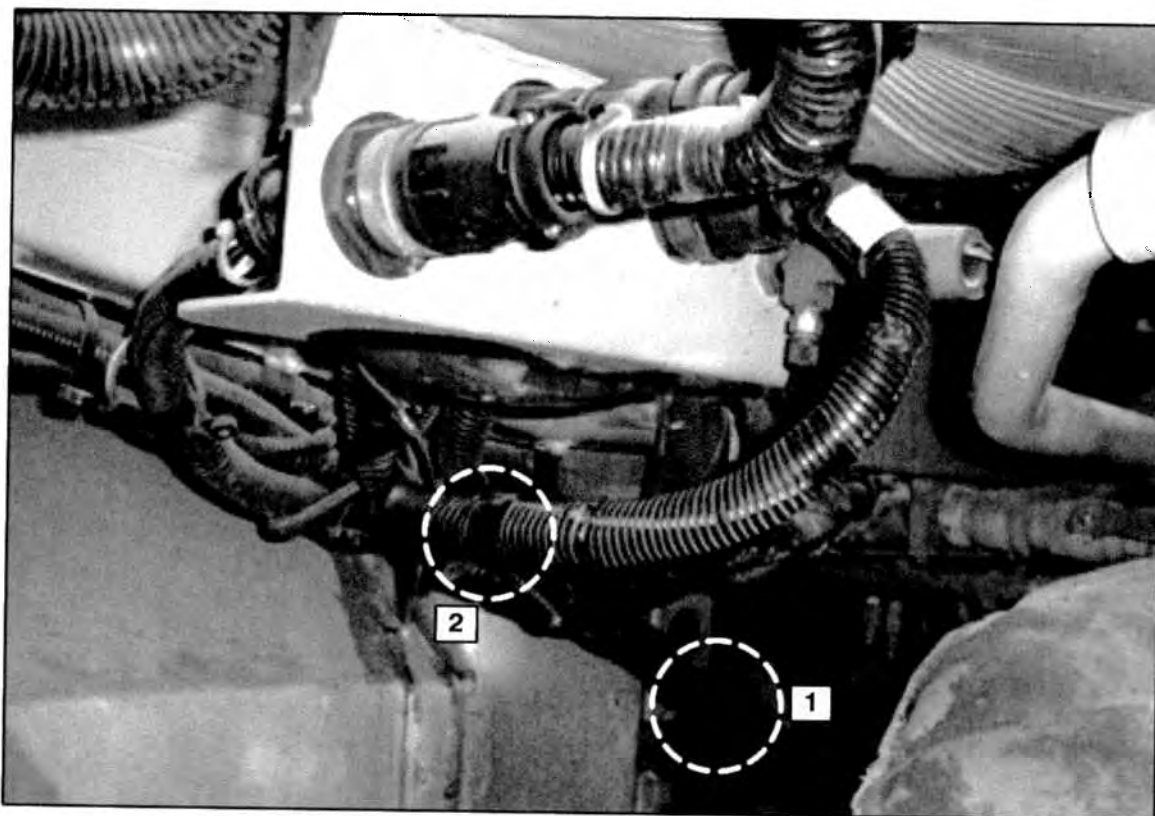

Figure 8.
8. Route and secure the harness as shown in Figure 8.